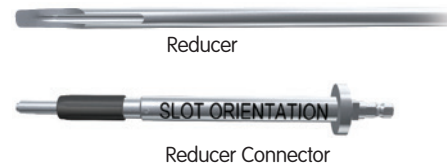

Figure 13
3. Connect the 8.5mm Reducer and the Reducer Connector (71674077) so that the words “Slot Orientation” on the connector are in line with the opening at the Reducer’s tip (Figure 13).